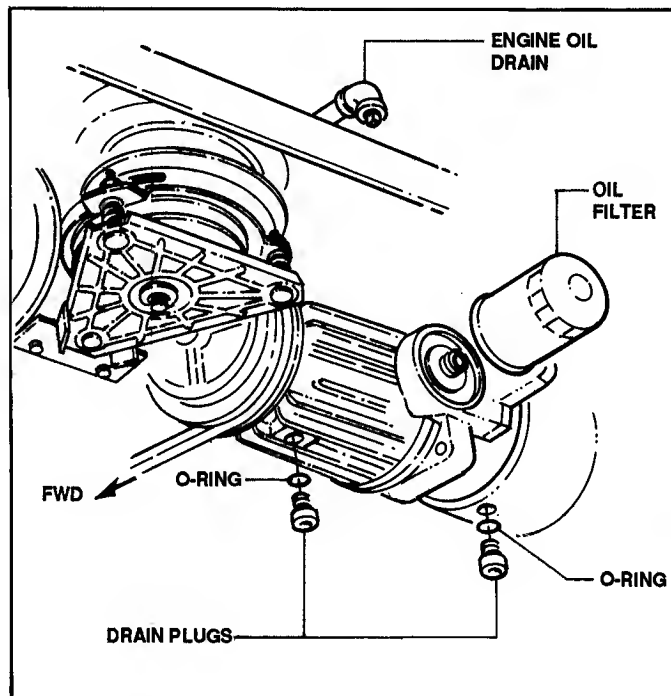

FIGURE 9.3
7. Loosen cap on fluid reservoir and allow fluid to drain. See Figure 9.3.